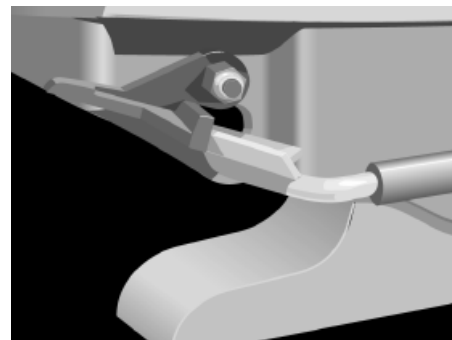

Figure 16
3. **OPEN POSITION (Figure 16)** - With the operating rod in the lockset position, the trailer may be uncoupled. Release tractor brakes and pull the tractor away from the trailer.